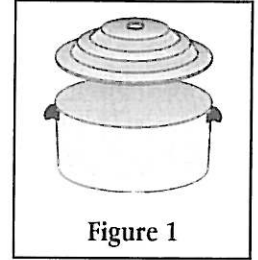

Figure 1
3. Place the lower adaptor disk on the boiling chamber as shown in Figure 1.